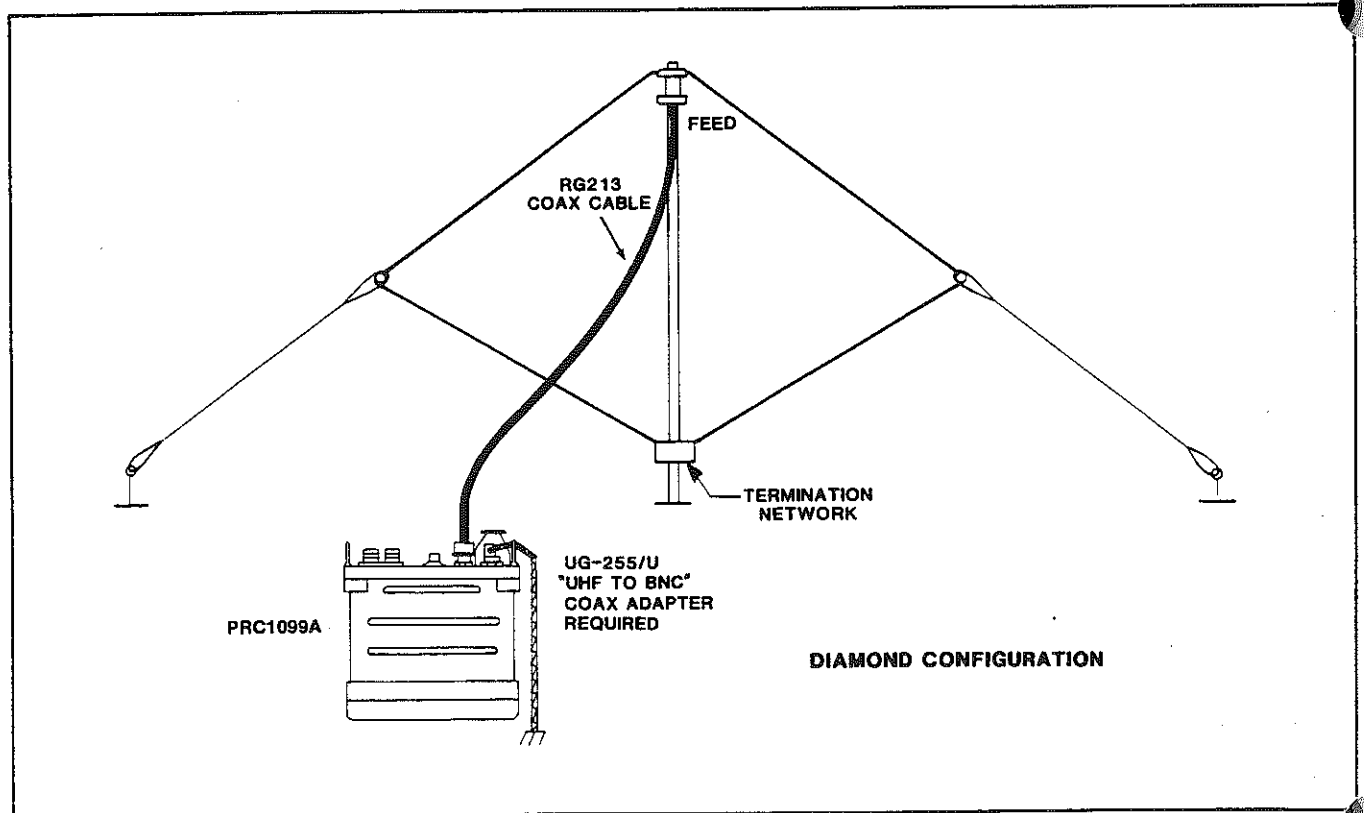

FIGURE 7-4.
(2) Broadband Antennas. The ABB100A and ABB-100B antennas offer good performance, without adjustment over the 2-30 MHz frequency range. See Figure 7-4.